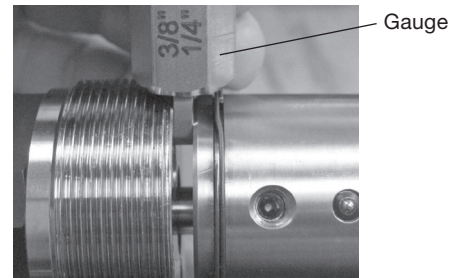

Fig. 33 Using the coning gauge to establish the gap
5. Place the tip of the appropriate size coning gauge between the manual adapter and end of the coning tool. Slide the coning tool toward the coning gauge, using the coning tool to push the tube. Continue until the face of the coning tool contacts the coning gauge to establish the gap. This distance ensures the tube will extend far enough from the tube vise to be properly set for coning. (Fig. 33)